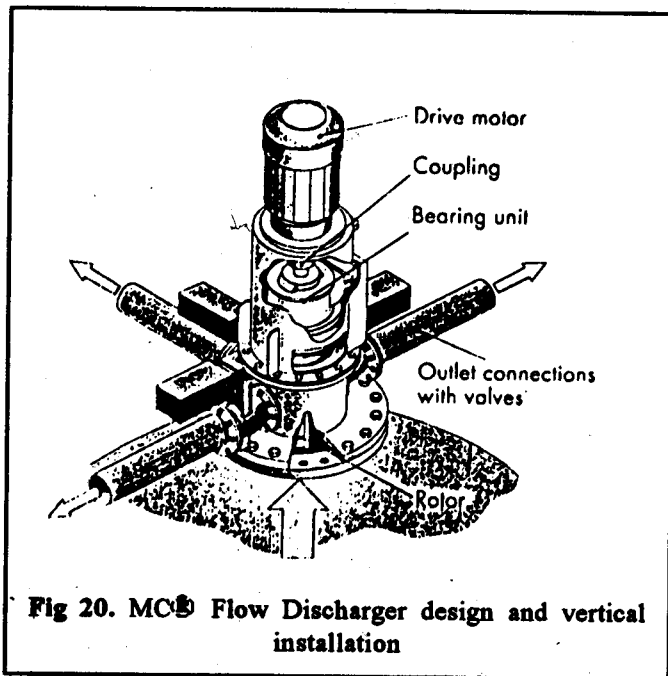

**Fig 19. MC® Flow Discharger in storage tower application.**
It is often necessary to transfer bleached pulp from the pulp mill to several storage towers which are all located relatively far (50 to 400 meters) from the bleached pulp washer and thus also far from the corresponding MC® Pump (Fig.19). This application is carried out so that there is only one discharge pipeline from the MC® Pump to the area of storage towers, and the flow is then divided at
A plug flow is generated in the pipe when pumping medium consistency (8 to 16%) stock, and the fiber network holds the plug together. Dividing this kind of flow to precisely controlled partial flows at the end of a pipeline is not possible with a valve only; an MC® Flow Discharger is used in this application to fluidize the pulp and to divide and control the partial flows to the towers (Fig.19).
- Fig.19. **MC® Flow Discharger in storage tower application.**